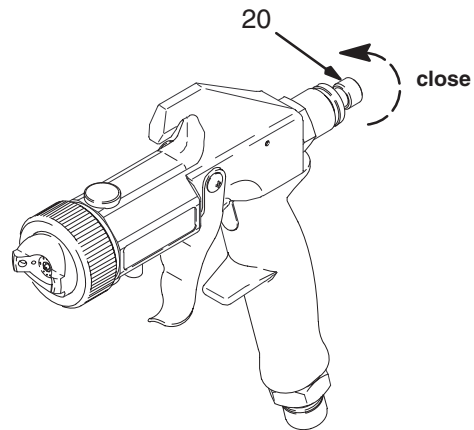

Fig. 8 05292
3. If further gun fluid adjustment is needed, turn fluid adjustment knob (20) clockwise to reduce volume of fluid output. See Fig. 8.